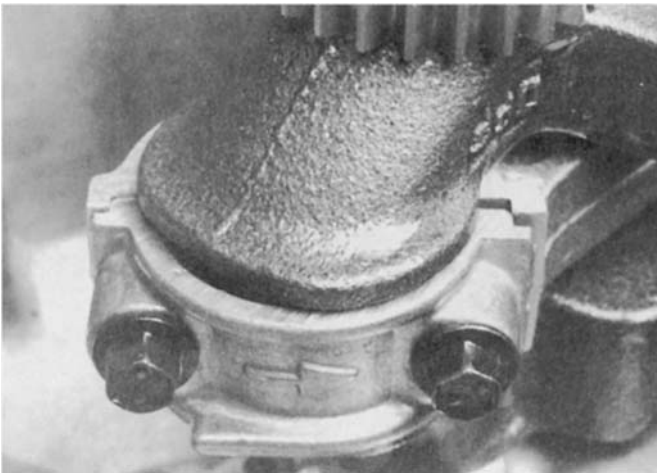

FIG. 8-13. *Connecting-rod match marks take the form of arrows pointing toward the camshaft. When oriented properly, the rod cap snaps onto the rod shank rabbet.*
19. As always, become familiar with the rod-cap/shank orientation marks before proceeding with disassembly. The arrow on the cap points to the camshaft and aligns with a second arrow on the upper rod assembly (Fig. 8-13).